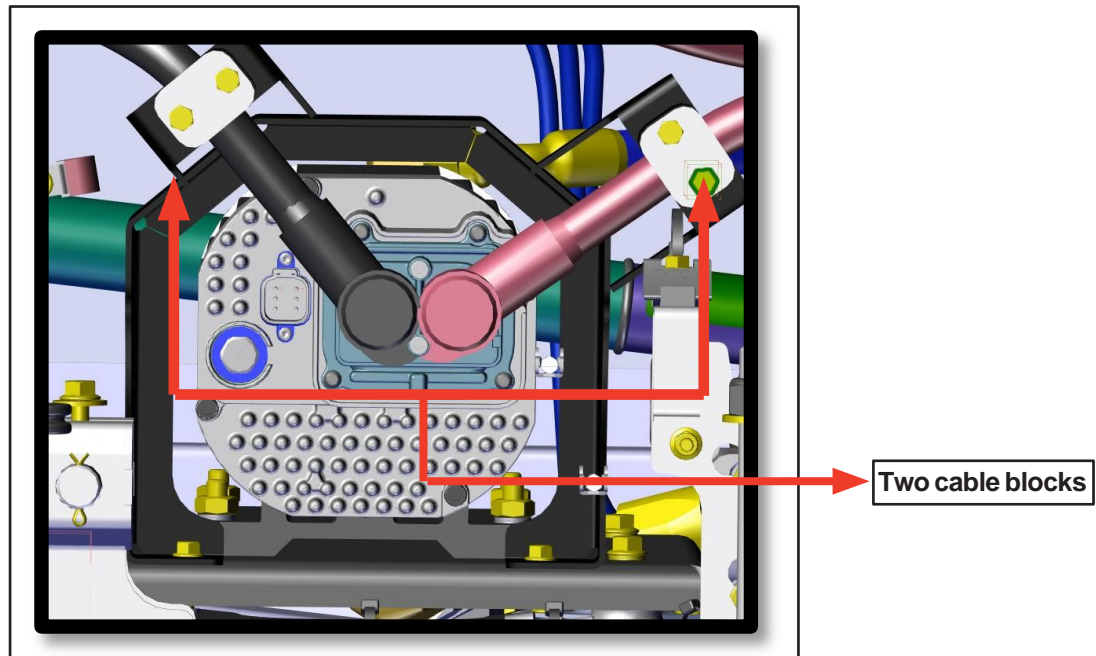

Figure 4 - Removal of two cable blocks
- 1.6. Remove the two blocks nearest to the terminals using a 10mm socket for the bolts and retain for reuse (see figure 4).